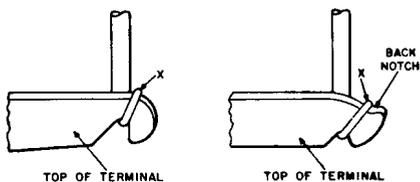

FIGURE 16. Termination of Wire on Horizontal Terminal with a Single Notch (Top View)
- 6.11 To terminate a wire on a terminal which is in a *horizontal* position (vertical IDF), with a single notch (either with or without a back notch), bring the wire along the bottom of the terminal, through the notch, back along the top of the terminal, and terminate at the back (or back notch, where provided). See Figure 16. Cut or break the excess wire at point X.